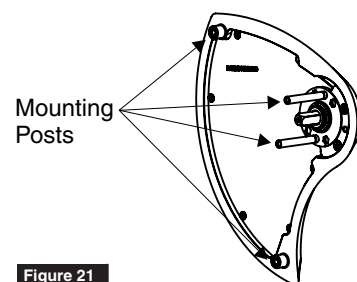

Figure 21
8. With lever in “up” position, align mounting posts on adapter plate with holes in lockbody and install outside trim assembly. (Figure 21)